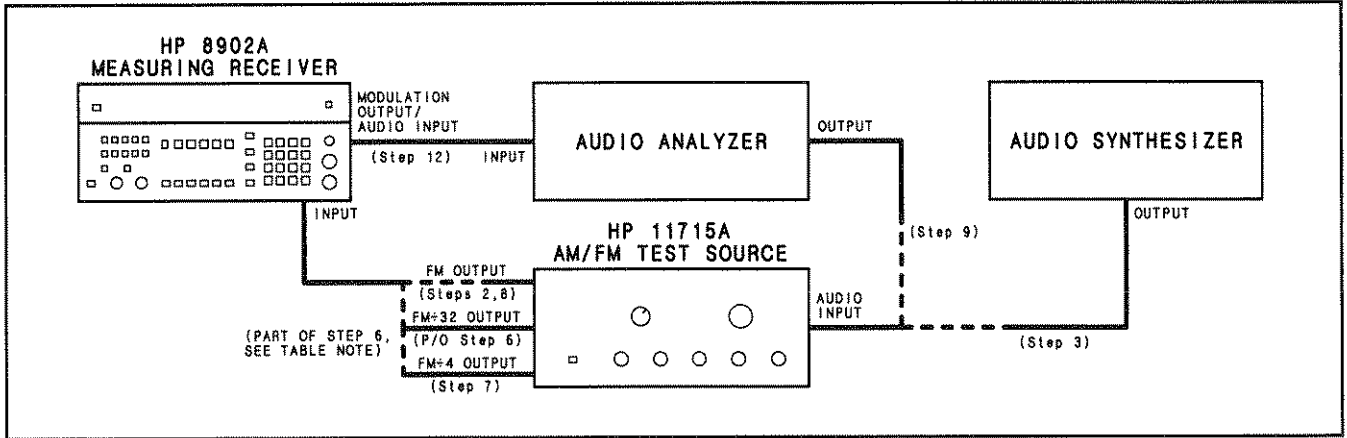

Figure 4-3. FM Performance Test Setup
2. On the AM/FM test source, set the test mode to FM. Connect its FM output to the Measuring Receiver's INPUT. (See Figure 4-3.)
3. Set the audio synthesizer to 200 Hz at -10 dBm. Connect its output to the audio input of the AM/FM test source. (See Figure 4-3.)
* Connect the FM÷32 output of the AM/FM test source to the Measuring Receiver's INPUT to make this measurement. (See Figure 4-3.) Press AUTOMATIC OPERATION, then MHz to retune the Measuring Receiver. If the resolution is not 0.001 rad, press Φ M again.
7. On the Measuring Receiver, key in 3.1 SPCL to set the IF to 455 kHz. Press FM. On the AM/FM test source, connect the FM÷4 output. (See Figure 4-3.) Set the audio synthesizer frequency as shown in the following table. Set the Measuring Receiver High Pass Filter as shown in the table. Set the audio synthesizer level to give the FM deviation shown in the table. After setting each FM deviation, press Φ M. For each setting, the Measuring Receiver's display should read between the limits indicated in the table.
8. Connect the FM output of the AM/FM test source to the Measuring Receiver's INPUT. (See Figure 4-3.) Press AUTOMATIC OPERATION on the Measuring Receiver.
9. Set the audio analyzer's oscillator to 1 kHz. Connect its output to the audio input of the AM/FM test source. (See Figure 4-3.)
12. Connect the audio analyzer's input to the Measuring Receiver's MODULATION OUTPUT/AUDIO INPUT. (See Figure 4-3.) Set the audio analyzer to measure the distortion on the 1 kHz signal at the MODULATION OUTPUT/AUDIO INPUT. Set the high-pass filter on the audio analyzer to 400 Hz. The distortion should be 0.1% (-60 dB) or less.